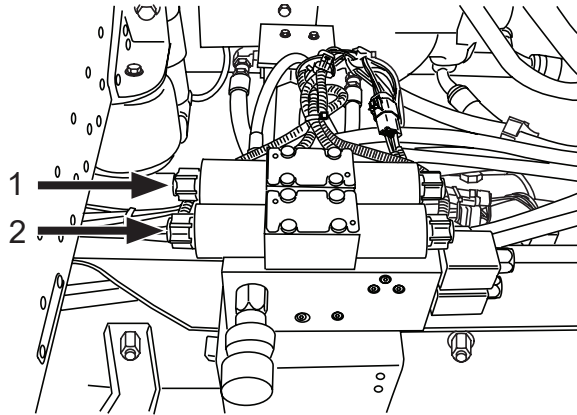

Figure 92
7. Manually shift the start/stop valve spool by pressing in on the end of the spool (Figure 92, Item 1).
8. Engage the Bridgemaster axle function by manually shifting the start/stop valve spool (Figure 92, Item 2).